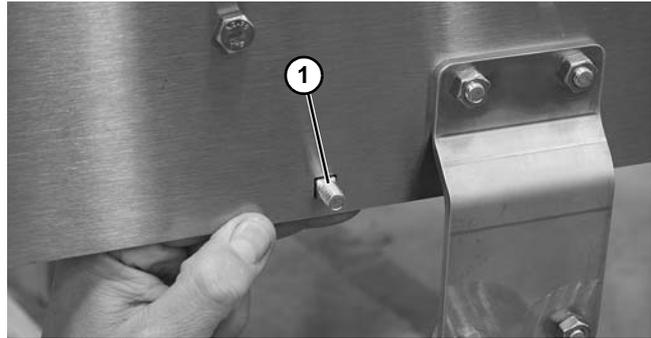

Figure 23
- Install carriage bolt (**Figure 23, item 1**) through frame rail.